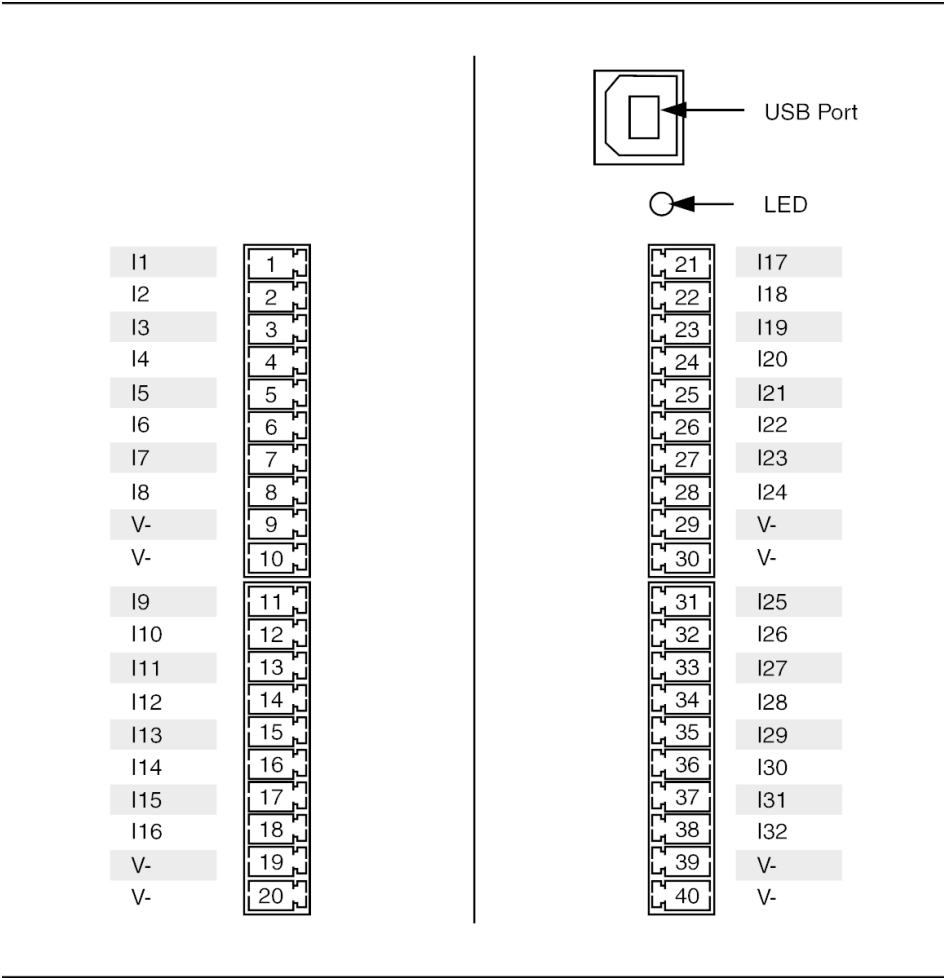

Figure 4 U2122A Pin Assignment
- **U2122A** 32-Terminal Digital Input (Figure 4)